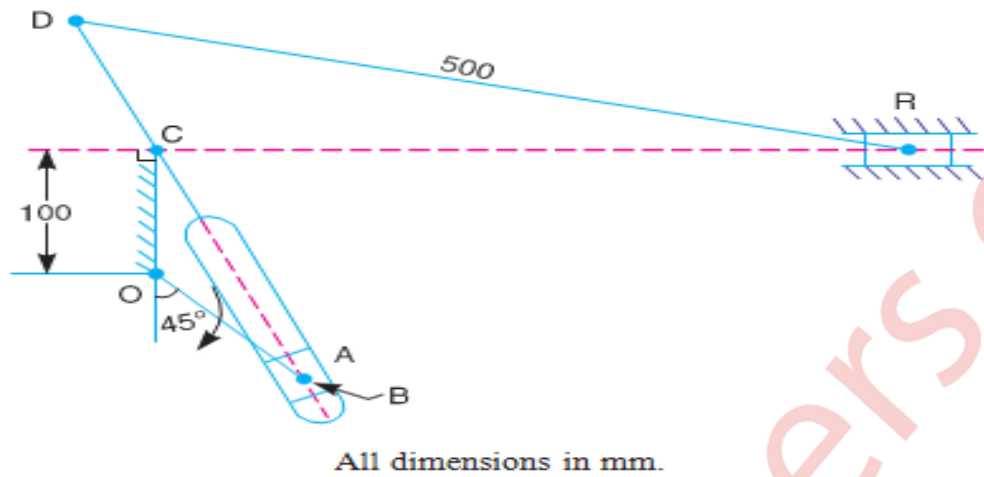

fig 2
Q 3 (a) In a Whitworth quick return motion, as shown in Fig. 2. OA is a crank rotating at 30 r.p.m. in a clockwise direction. The dimensions of various links are: $OA = 150$ mm; $OC = 100$ mm; $CD = 125$ mm; and $DR = 500$ mm. Determine the acceleration of the sliding block R and the angular acceleration of the slotted lever CA . (14)